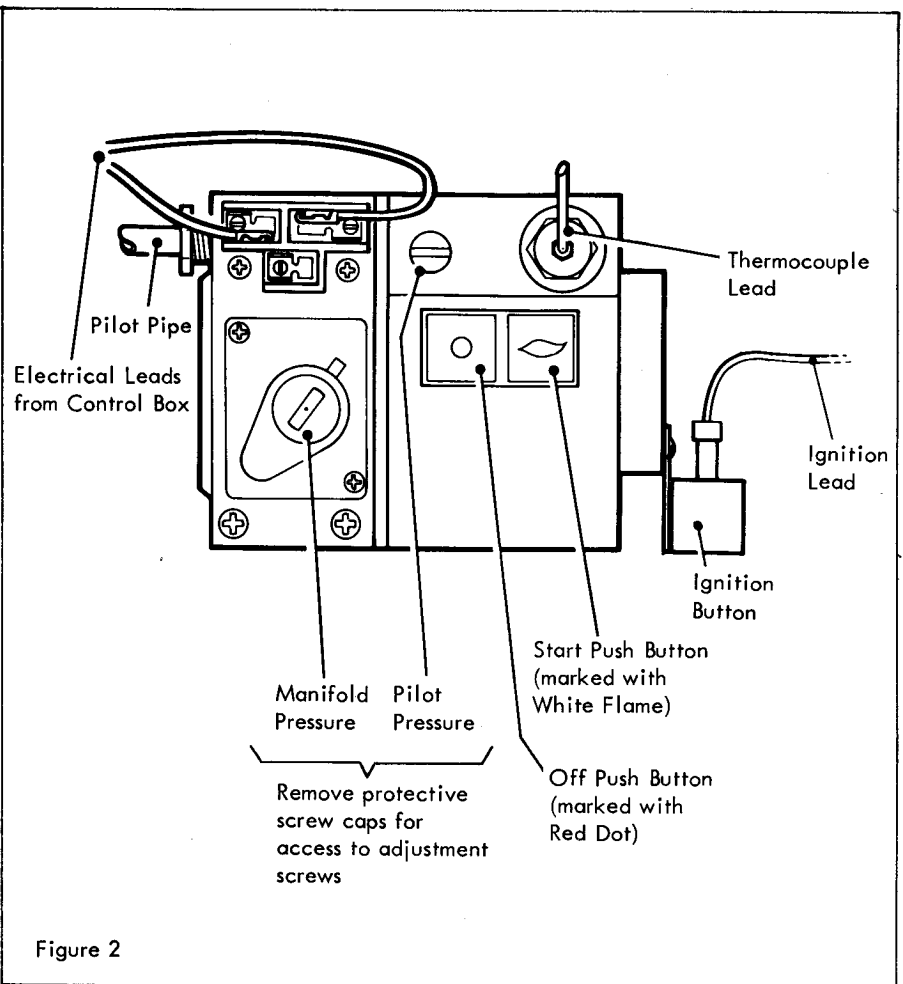

Figure 2
2. The pilot flame is about 25 mm (1") long (to adjust, remove the protective screw cap adjacent to the gas control buttons (Fig.2) and turn the screw then revealed clockwise to decrease or anticlockwise to increase the pilot flame length).
Table 2 gives details of rated boiler output with related manifold gas pressure and heat inputs. The location of the manifold pressure adjustment screw on the gas control is shown in Figure 2. A pressure test nipple for checking the burner manifold gas pressure is provided on the gas control outlet pipe.
Reconnect the pilot pipe and thermocouple. Refit the burner assembly to the boiler and the electrical leads to the gas control. Plug in the ignition lead (Fig.2).